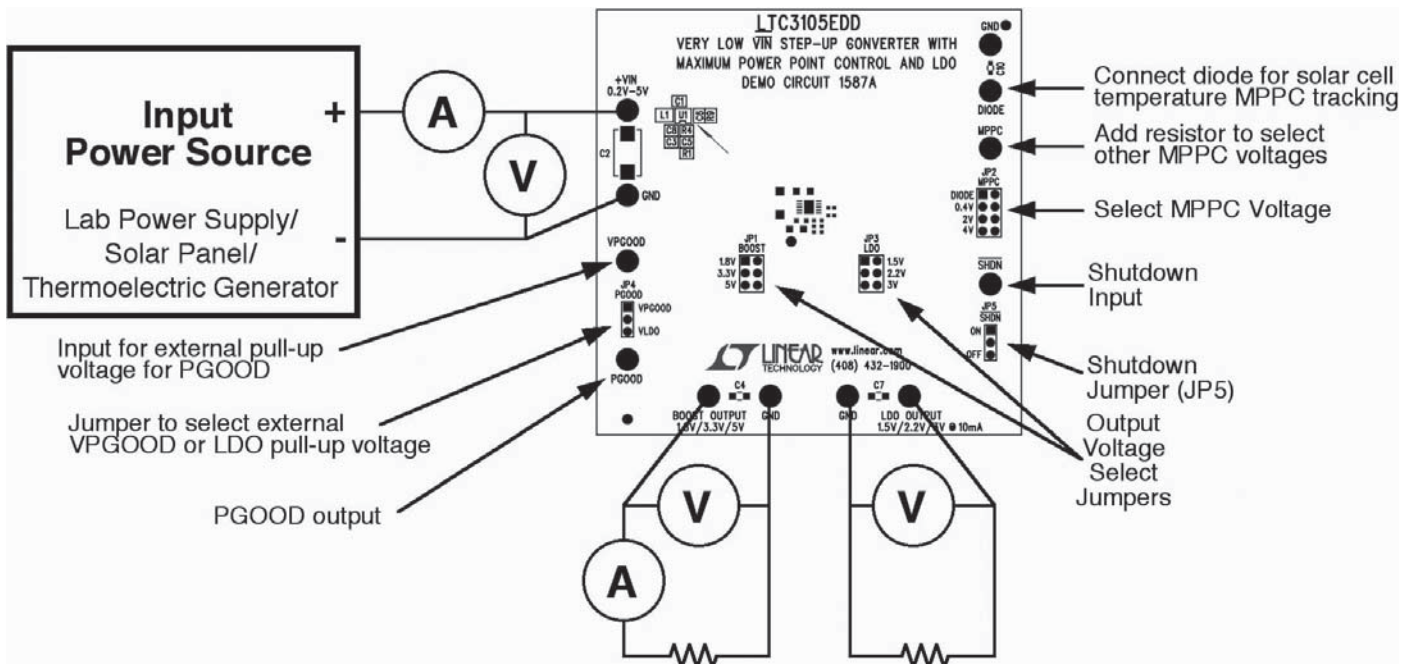
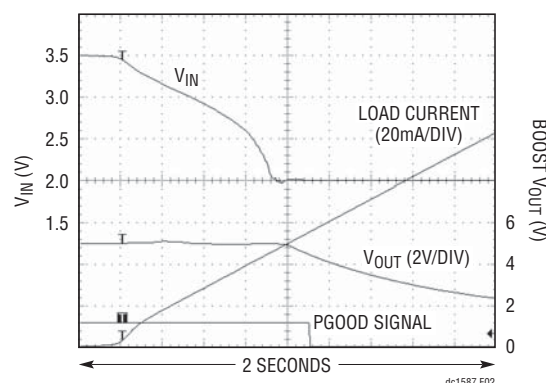

Figure 1. Proper Measurement Equipment Setup
Figure 2. Maximum Power Point Control Programmed for 2V, Operating from a High Impedance Input Power Source (10Ω)
Equipment required to evaluate the LTC3105 demonstration circuit include a low voltage bench power supply, digital voltmeters and suitable load resistors. Refer to Figure 1 for proper measurement equipment setup and follow the procedure below.
- With the power off, connect a low voltage adjustable power supply and three voltmeters as shown in Figure 1 (ammeters are optional). Switch the power supply on and adjust the voltage to approximately 450mV, and move the JP5 jumper to the ON position. With no load resistor on either output, verify that the BOOST and LDO output voltages are within the specifications shown in Table 1. Increase the input voltage to 1.5V and connect suitable load resistors to the output terminals to verify the output voltages under load. The maximum Boost output current is dependant on V_{IN} and the maximum LDO output current is 6mA
As the output load current increases, the voltage on V_{IN} decreases due to the 10Ω input resistor. Figure 2 shows V_{IN} , V_{OUT} and PGOOD voltages as the load current is increased over a 2 second time period with the MPPC programmed for 2V. The output remains at a regulated 5V until the input voltage drops to the 2V MPPC threshold. The MPPC prevents the input voltage from dropping below 2V by reducing the output voltage. Without MPPC, the output voltage would drop to near 0V resulting in zero output power. Connecting the MPPC pin to GND will disable the MPPC function. Also shown in Figure 1 is the Power Good (PGOOD) signal that pulls low when the Boost output voltage drops 10% below the programmed value.